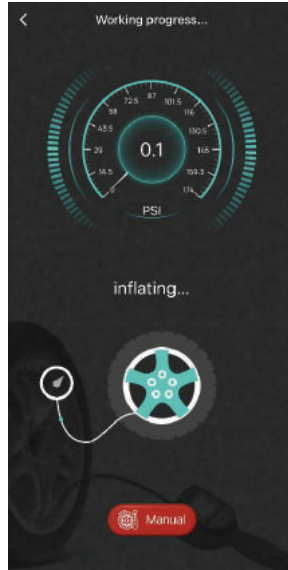

Fig. 11
- 2) The chuck is connected to the tire valve, the machine automatically starts to work, and the APP display interface jumps to the working mode. (See Fig. 11)